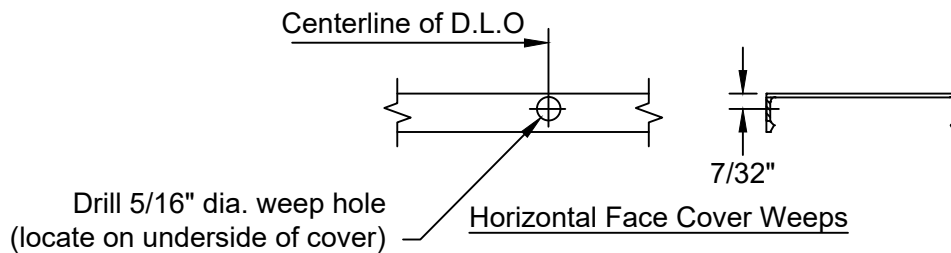

FIGURE 4
- 1.5 Drill (1) 5/16" dia. weep hole at the bottom of each horizontal face cover at the centerline of the D.L.O. SEE FIGURE 4, page 9. NOTE: For SSG applications, face covers typically run across SSG mullions, so there will be multiple holes in each horizontal face cover. Maximum length of horizontal face covers at SSG applications should be 20 feet.